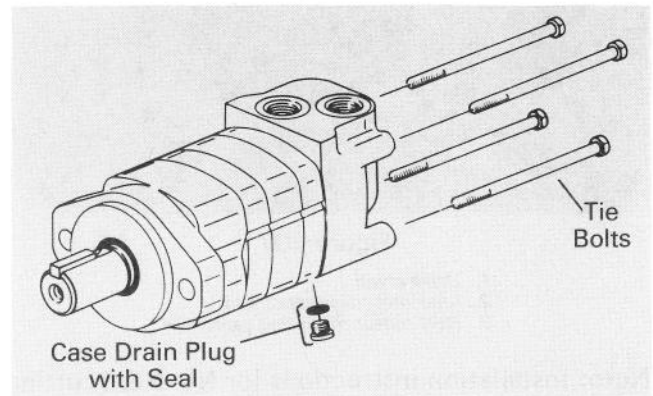

Figure 106
20. Install the tie bolts (Fig. 106). If you use alignment studs, install 2 bolts opposite the studs. Finger tighten the bolts. Remove the alignment studs and replace with the 2 remaining bolts. Torque all 4 bolts alternately to 450 lb-in.